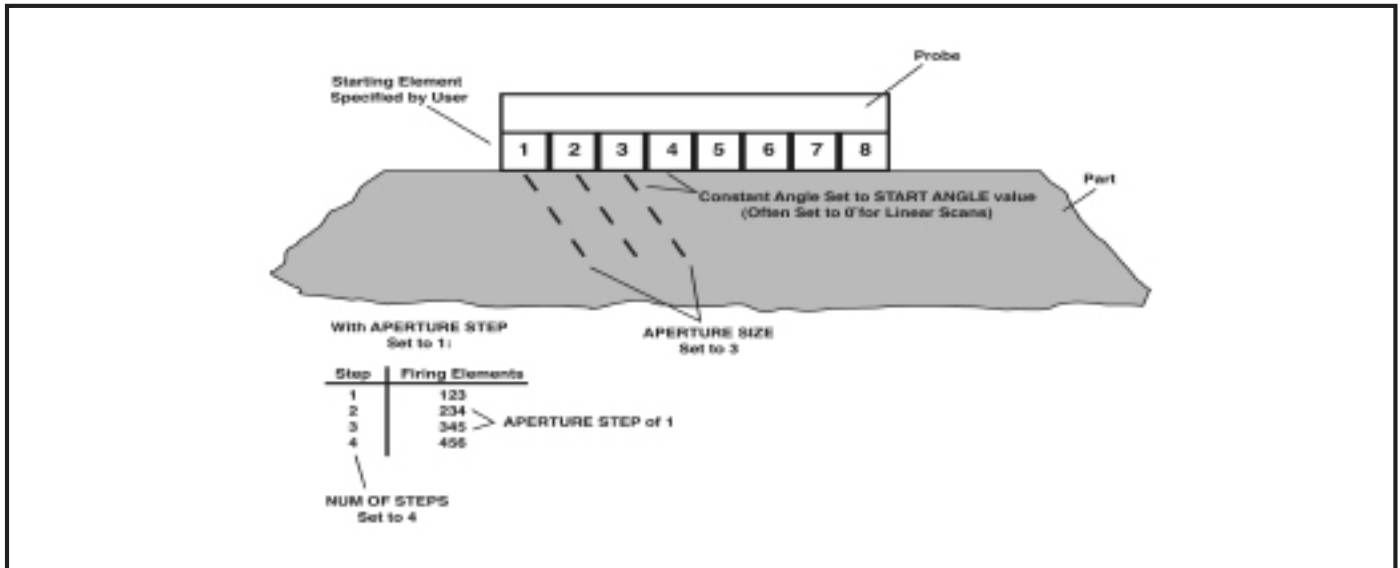
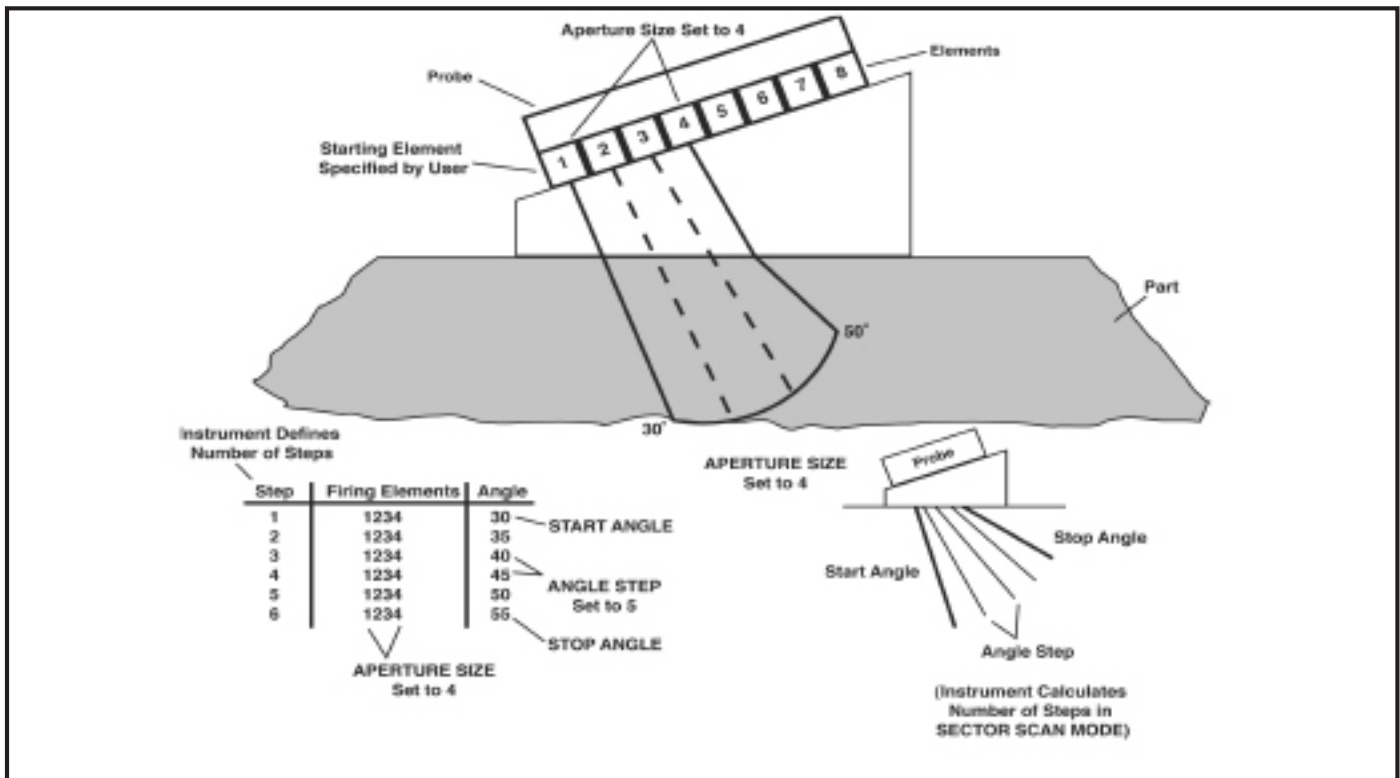

Figure 12: Linear Scan Parameters
Figure 13: Sector Scan Parameters
When operating in Phased Array mode, the sequence and pattern at which the probe's elements fire are defined by the scan parameters (SCAN Menu). This section describes the process for setting these parameters and the effect of their settings on the instrument's function. The following scan parameters are represented graphically in Figure 12 and Figure 13 on the next page and described in greater detail below:
**LINEAR SCAN TYPE** – Controlled firing of multiple elements at a constant angle (Figure 12)
**SECTOR SCAN TYPE** – Constant-sized groups of elements (said to represent a constant “aperture”) are fired at varying angles (Figure 13)